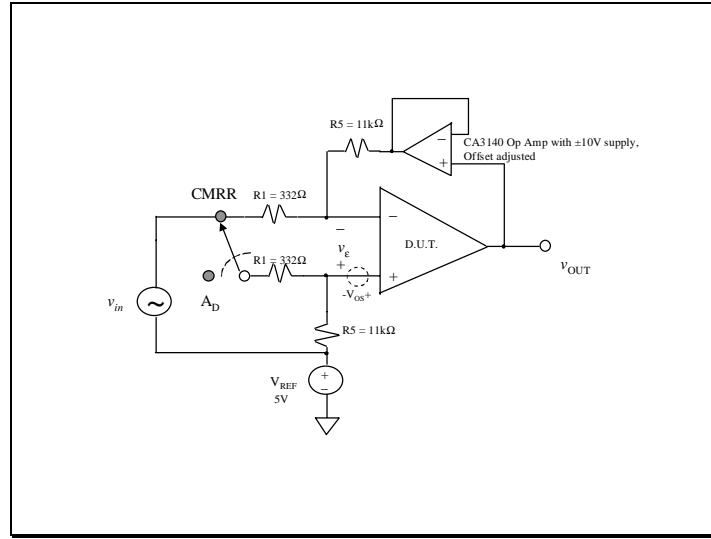

Figure 3.1a: Open Loop Differential Gain and CMRR Measurement Circuit
1. Setup the circuit shown in Figure 3.1a.
- 1 Setup the circuit shown in Figure 3.1a.
The output voltage of the circuit of Figure 3.1a configured for CMRR measurement can be expressed in terms of the differential gain, A_D , common mode gain, A_{CM} , and the input voltage of the op amp. This is shown in **(Eq. 3.3)**: